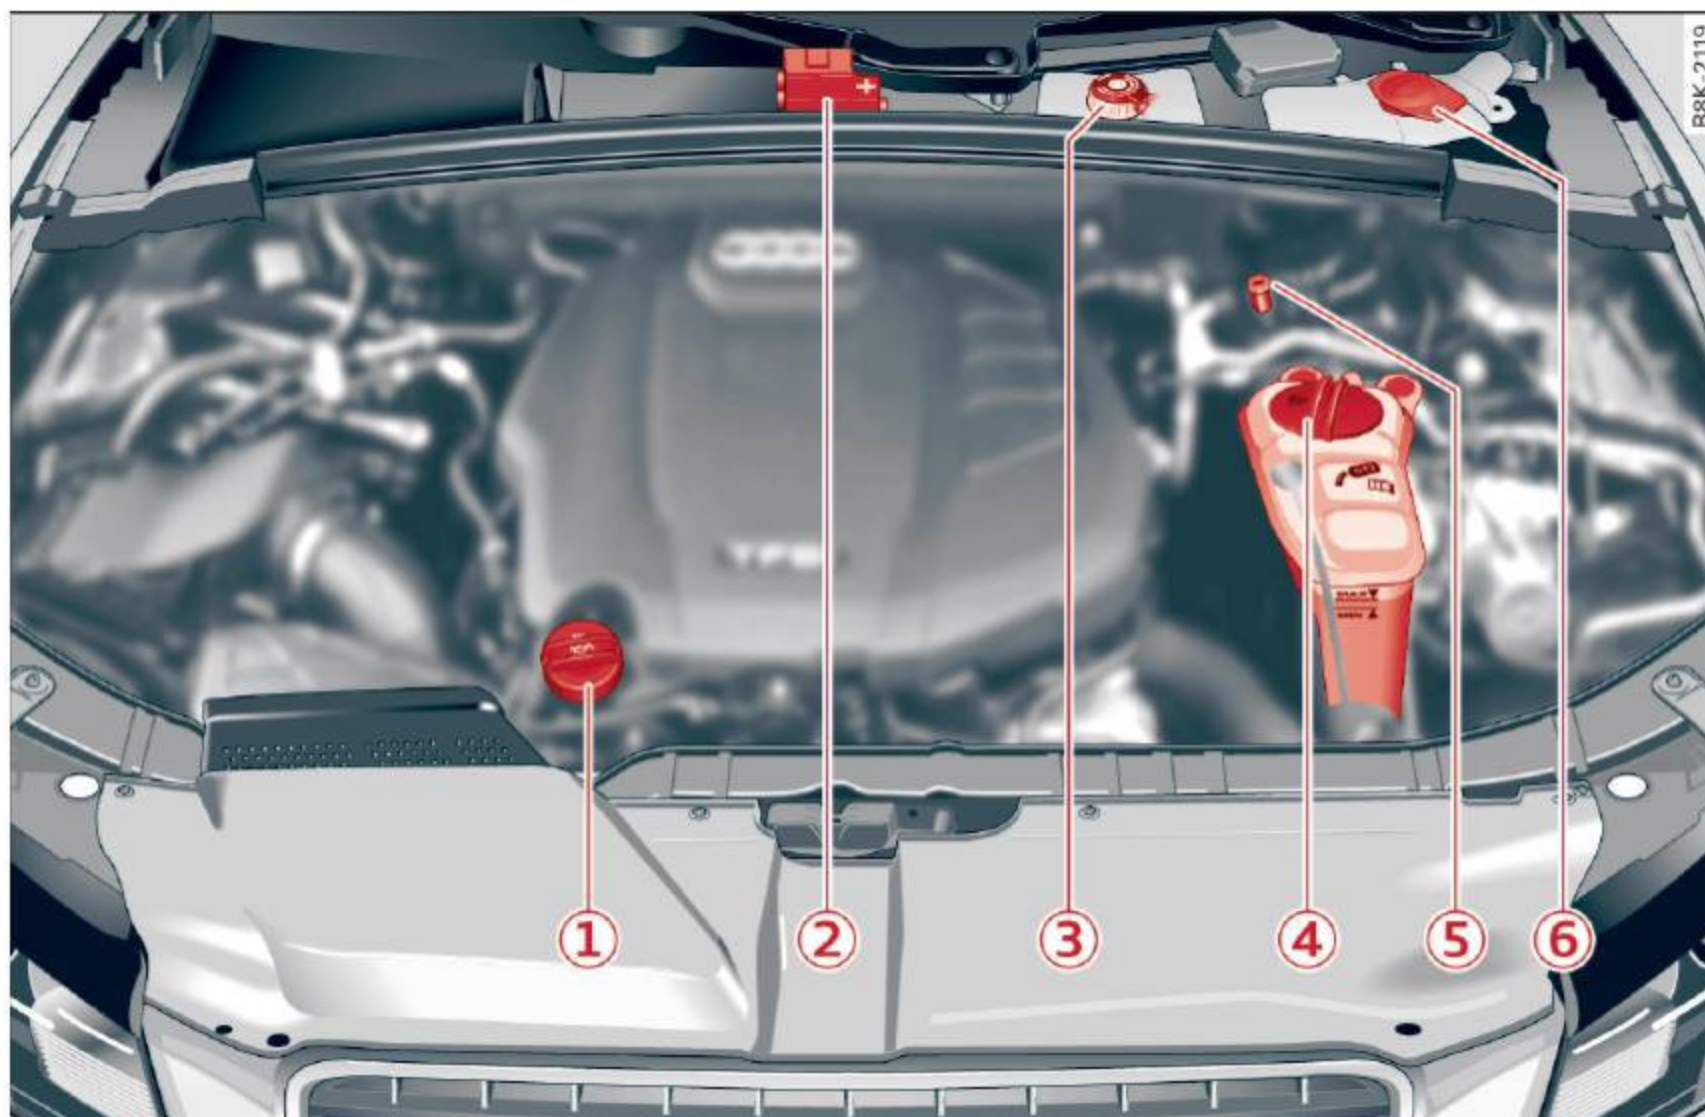

Fig. 161 Typical layout for containers and engine oil filler cap
The position of the engine oil filling hole ⇒ *fig. 161* (item ③) can differ depending on the engine design.
- ▶ Unscrew the cap to the engine oil filling hole ⇒ *fig. 163*, ⇒ *page 208*, *fig. 161*.